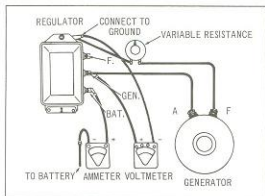

Figure 51-2.
## A. TESTING THE GENERATING SYSTEM (SEE FIGURE 51-2)
**B. TESTING CUTOUT RELAY UNIT CLOSING VOLTAGE (THE SAME CONNECTIONS ARE USED AS IN TEST A (FIG. 51-2.))**